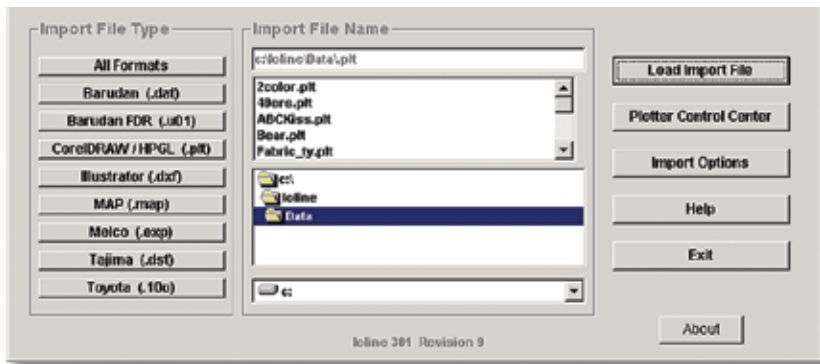

Figure 7: Loading a file into the 301 Software.
- 3. Use the center file window to locate the folder and file to import. The default folder is *C:\Ioline\Data* (Figure 7).